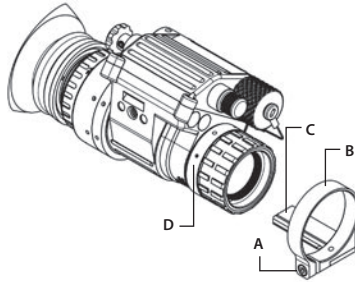
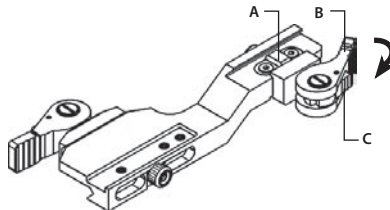
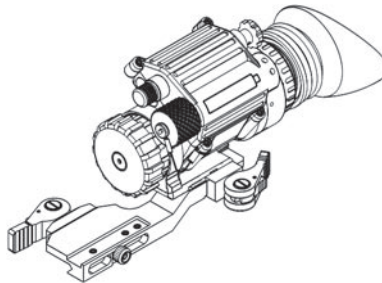

Figure 3-20. Mounting Optional Bracket to the PVS-14
Figure 3-21. Clamping Device on the Mount Top
Figure 3-22. QRM Assembled with PVS-14
- (1) Loosen the bracket clamp screw (A, Figure 3-20).
- (2) Put the bracket clamp (B) onto infinity focusing stop ring (D) of the PVS-14 objective lens.
- (3) Fix the PVS-14 in the bracket clamp (B) tightening the screw (A).
- (4) To unlock the clamping device (located on top of the QRM), see Figure 3-21. While pushing the lever holder (C, Figure 3-21) down, turn the lever (B, Figure 3-21) towards the arrow (forward).
- (5) Install the PVS-14 on the mount so that the stop (A, Figure 3-21) is inserted into the transverse slot of the monocular rail.
- (6) Secure the PVS-14 to the mount by turning the lever (B) to the locked position, as shown in Figure 3-21.
- (7) Verify that the clamping device is firmly secured to the PVS-14. If necessary, adjust the clamping device by rotation the nut (D).
- PVS-14 installed on the QRM is shown in Figure 3-22.
- (3) Align the headmount/ helmet mount adapter's latch to the headmount socket (Figure 3-20). Hold the latch lever down while installing the monocular into the headmount socket.
- (4) To set your eye relief, press down on the eye relief adjustment (Figure 3-20). Move the monocular back towards your non-dominant eye until the eyecup is comfortably sealed around the eye.
- (5) Turn the monocular ON.